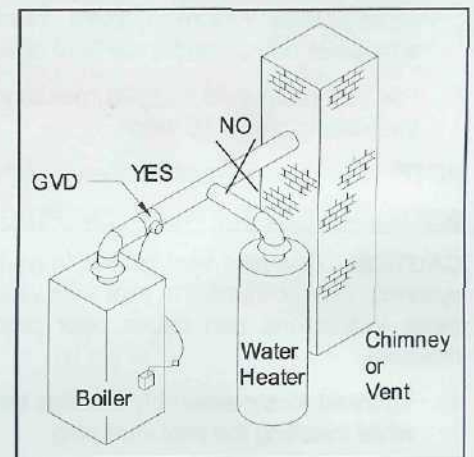

Figure 4
WARNING: Install the automatic vent damper to service only the single appliance for which it is intended. See Figure 4. If improperly installed a hazardous condition such as an explosion or carbon monoxide poisoning could result.
2. Locate a position in the vent pipe connector between the draft hood and ventor chimney for the damper device. (See Figure 4)